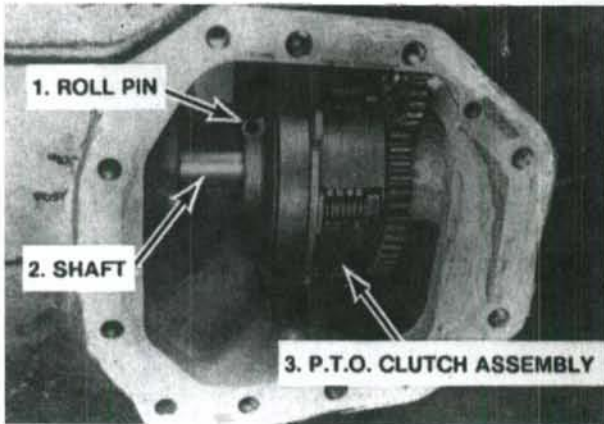

Fig. 88—Bottom view of pto clutch (cover removed).
104. R&R AND OVERHAUL. To remove the Power Shift unit, speed gearbox must be removed from the tractor. To remove the speed gearbox, first remove cab and fuel tanks or fenders, tank and platform, as equipped, as outlined in paragraph 145 or 144. Remove plugs and drain fluid from speed gearbox and rear frame. Remove front drive axle drive shaft and shield, if so equipped. Unbolt and remove pto clutch cover from bottom of rear main frame. Refer to Fig. 88 and drive out roll pin (1) from pto clutch and shaft. Unbolt lower pto shaft cover or seal housing, as equipped, and remove with gasket from rear of tractor. Have helper support the pto clutch. With-